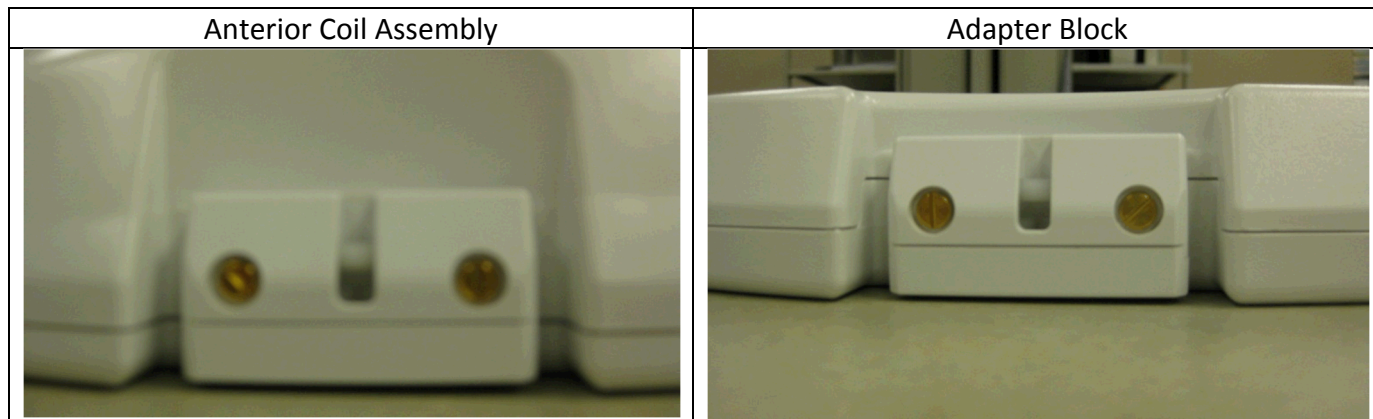

Figure 3.5
- 3.8. Place the anterior latch assembly in the correct orientation and attach it to the anterior coil or the adapter block with the 2 screws as seen in Figure 3.5.